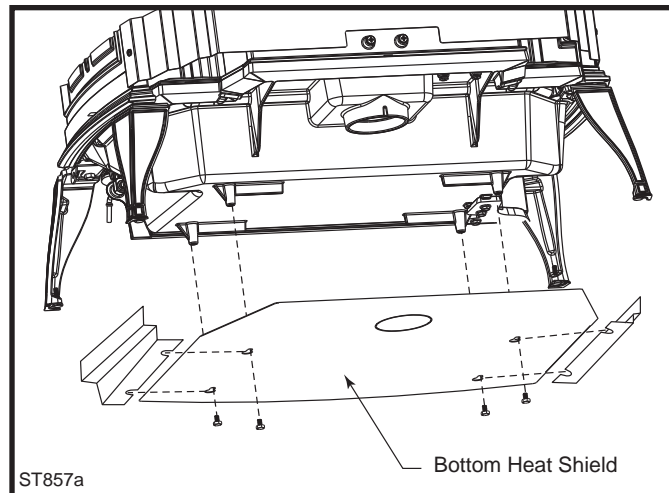

Fig. 16 Attach the bottom heat shield.
3. Pass all four bolts through the large end of the keyholes and then pulling the shield forward to engage the smaller ends of the keyhole slots. (Fig. 16)